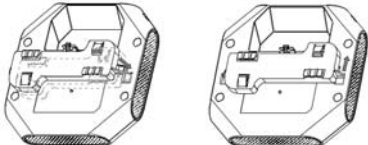

Figure 4: Attaching Ceiling Rail Adapter
- Place the adapter against the back of the AP, insert by aligning the slot on the backside with the hanging feet on both sides of the adapter (see Figure 4) .
- Push the adapter along the direction of the arrow until it locks in the slot (see Figure 4).